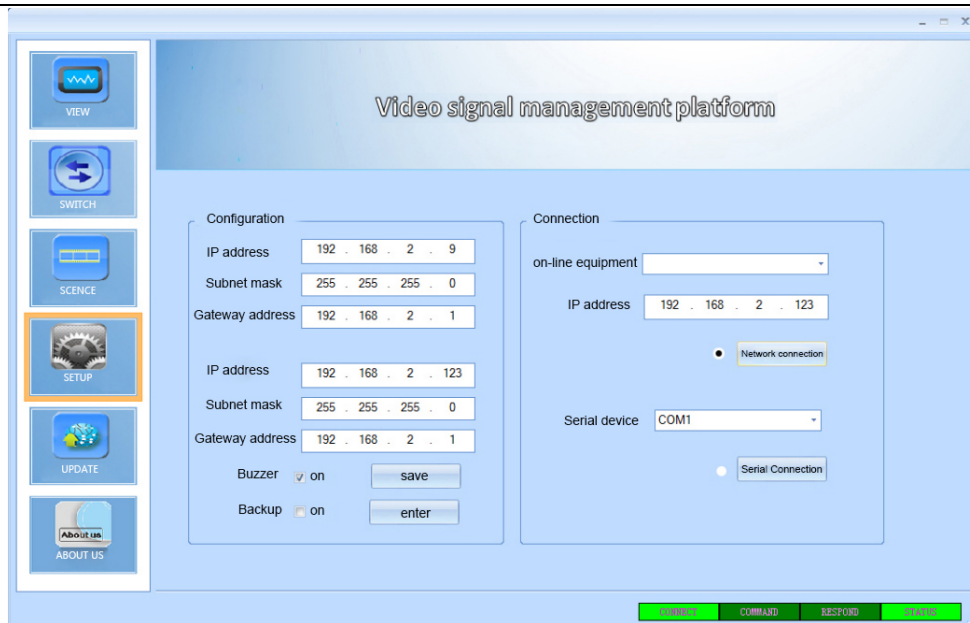

Figure 6.3.1 Network connection
1) **Network connection:** use network cable to connect computer and matrix, double-click to open the control software, click "SETUP" button, input network address in the white box on the right side of the network address (click on the touch screen "SETUP" button of matrix to view matrix network address), then click the "network connection" button, when all the buttons at the bottom right corner are green, the connection is successful. At this point, click the "load" button on the interface to display some of the configuration of the matrix, as shown in Figure 6.3.1